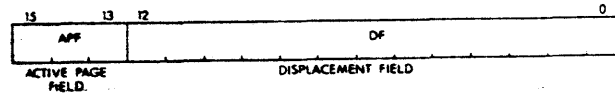

Figure 2-4 Interpretation of a Virtual Address
The basic information needed for the construction of a Physical Address (PA) comes from the Virtual Address (VA), which is illustrated in Figure 2-4 and the appropriate PAR set.